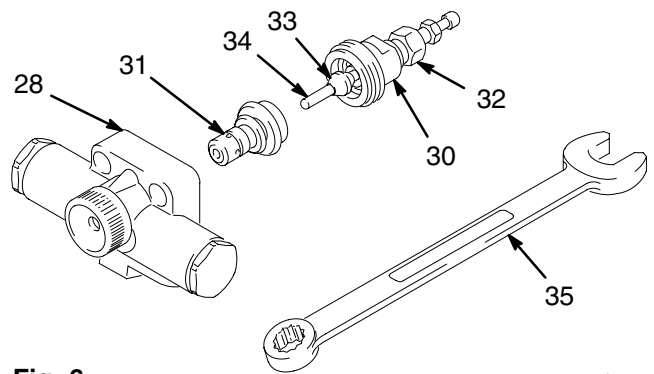

Fig. 6
3. Use the 1/2" end of wrench (35) to remove the nozzle retainer (30) from the back of the nozzle housing (28). See Fig. 6.
4. Insert the nozzle (31), tapered end first, into the back of the housing. See Fig. 6.
6. Slide the needle assembly through the nozzle and into the nozzle housing assembly. See Fig. 6.